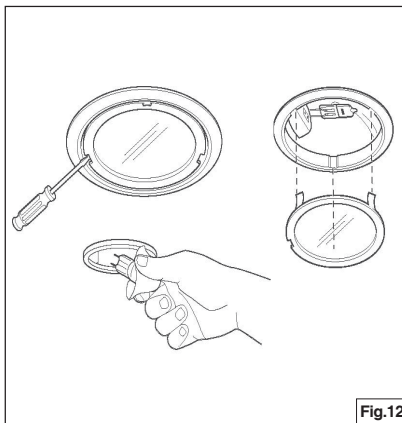

Fig.12
1. Open the cover by prying from the proper slots. See Fig. 12.